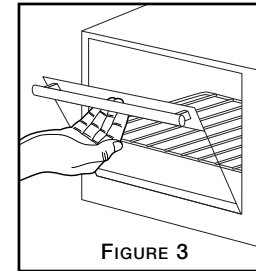

FIGURE 3
Step 2: Pull down the countertop oven door carefully (See Figure 3).